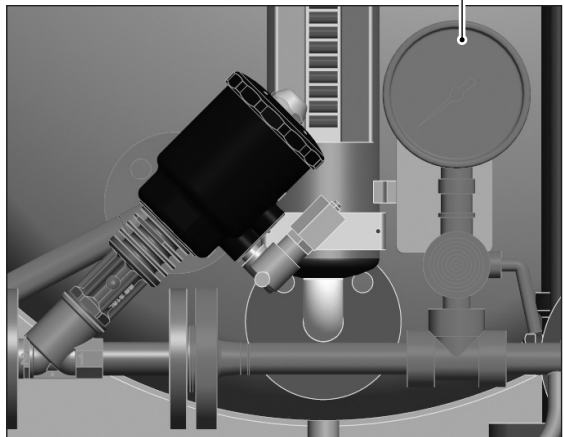

Fig. 21
5.4.9 Pressure gauge (clean steam/feedwater) - Figure 21